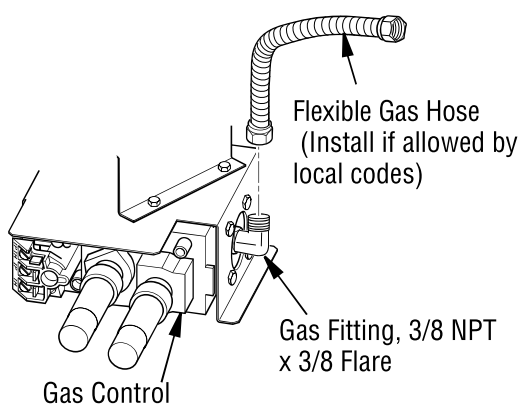

Figure 11 - Attaching Flexible Gas Hose to Appliance Gas Regulator
1. Apply pipe joint sealant lightly to male threads of the 3/8 NPT side of gas fitting (provided) and connect to inlet side of gas control. Remove gas fitting from flexible gas hose (provided) before connecting to gas fitting (see *Figure 11*).
4. Disconnect gas line from appliance base as shown in **Figure 11, Page 13**.